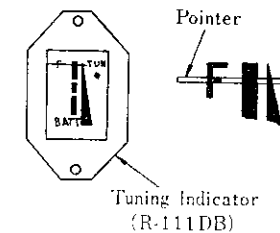

Fig. 9
- Adjust 1KΩ potentiometer (R43) & 20KΩ potentiometer (R35) so that the pointer of the tuning indicator stays as shown in Fig. 9.